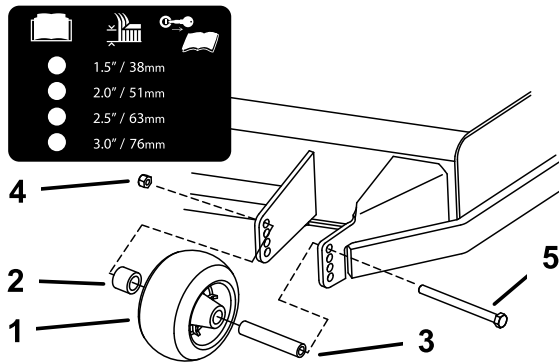

Figure 36
- Adjust the anti-scalp rollers as shown in Figure 36.